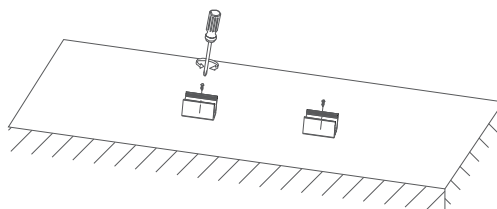

Figure 1
**Connection diagram for RGB:** as figure 1, use power cabinet(waterproof, moisture proof, dust proof)the cabinet can hold one or more control powers.
1. Fixed the clip in the place where the neon flex installed, as shown in Figure 1